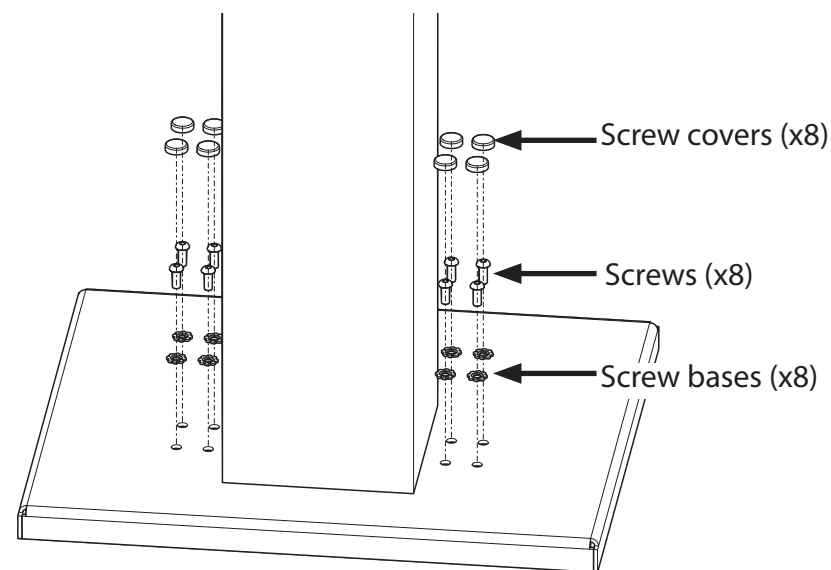

Figure 7: Attach the stand to the floor bracket
4. Secure the stand onto the floor bracket using the screw cover bases, screws, and screw bases as show in Figure 7.